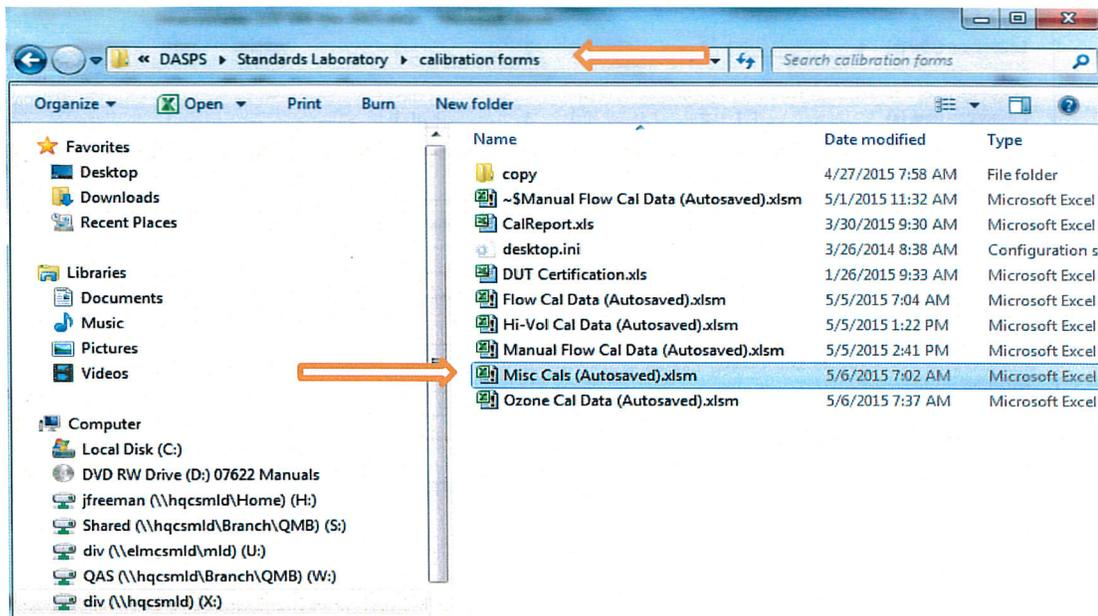

Figure 8: “Misc Cals.xlsm” workbook
13.1 Follow the displayed data path and open the “X:\DASPS\Standards Laboratory\calibration forms\Misc Cals.xlsm workbook”. See Figure 8.